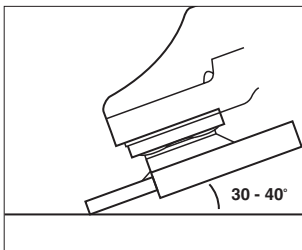

Fig. 7
- Move the machine during roughing under an angle of 30° - 40° across the workpiece (fig. 7).